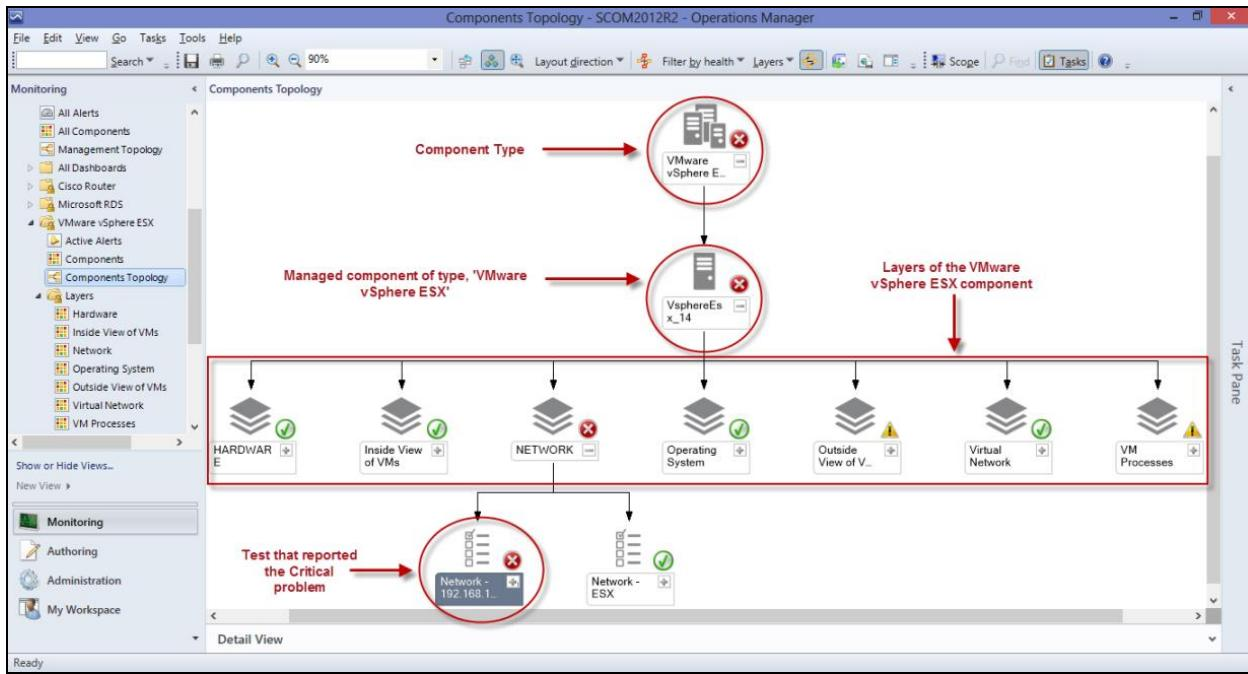

Figure 3.18: The topology representation revealing the exact component of a type, layer of component, and test mapped to the layer that is a Critical state
9. For a more graphical, comprehensive view of the performance of a component type, click on the **Components Topology** node (see Figure 3.18). An icon representing the *VMware vSphere ESX* component type will then appear. Using an intuitive icon and a conventional color code (Red), the component-type representation clearly indicates that the *VMware vSphere ESX* component-type is in a Critical state presently. To know which vSphere servers have contributed to this abnormal state, drill down by clicking the '+' icon alongside. This will reveal all managed vSphere servers and their current state. In the case of our example, only a single single vSphere server has been managed. We can infer from Figure 3.18 that this vSphere server is in a Critical state presently. To understand why, click on the '+' icon alongside the vSphere server (i.e., component) representation in Figure 3.18.